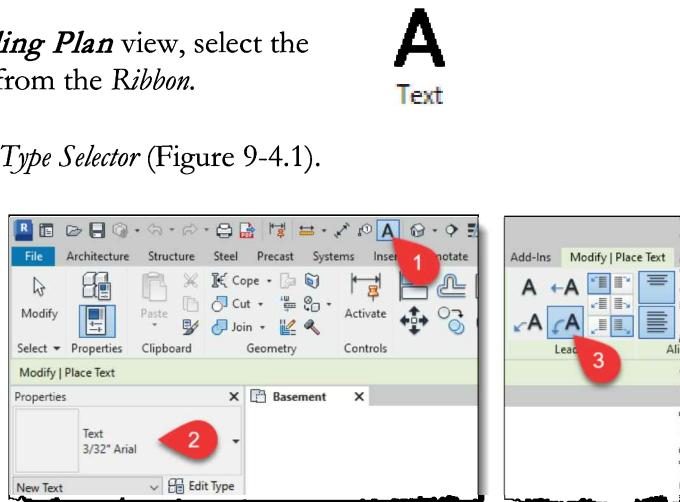

FIGURE 9-4.1 Text; Ribbon options
2. Pick **Text: 3/32" Arial** from the **Type Selector** (Figure 9-4.1).
3. Select the **Leader (Curved)** button highlighted in **Figure 9-4.1**.